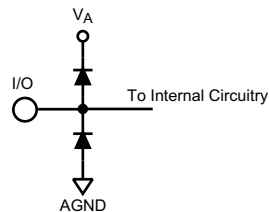

Figure 1.
- (1) The inputs are protected as shown below. Input voltage magnitudes above V_A or below GND will not damage this device, provided current is limited per Note 4 in the Absolute Maximum Ratings table. However, errors in the A/D conversion can occur if the input goes above 2.6V or below GND as described in the Operating Ratings section, see Figure 1.
- (2) With a full scale differential input of $2V_{P,P}$, the 14-bit LSB is 122.1 μV .
- (3) Typical figures are at $T_A = 25^\circ\text{C}$ and represent most likely parametric norms at the time of product characterization. The typical specifications are not guaranteed.
- (4) This parameter is specified in units of dBFS - indicating the value that would be attained with a full-scale input signal.
- (2) With a full scale differential input of $2V_{P-P}$, the 14-bit LSB is 122.1 μV .
- (4) This parameter is guaranteed by design and/or characterization and is not tested in production.